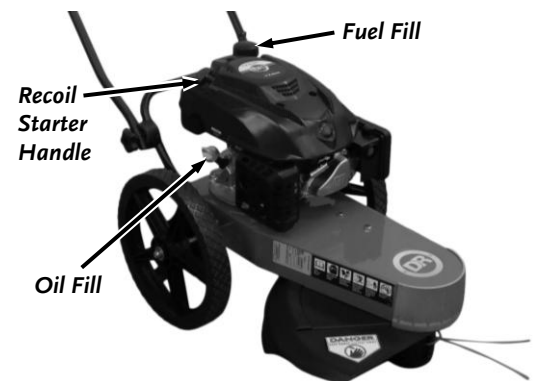

Figure 23
1. Remove the Oil Cap/Dipstick and position the tube of the Extractor into the Oil Cap/Dipstick hole (**Figure 23**).
3. Remove the Oil Cap/Dipstick and position an approved oil container near the Oil Cap/Dipstick (**Figure 23**).